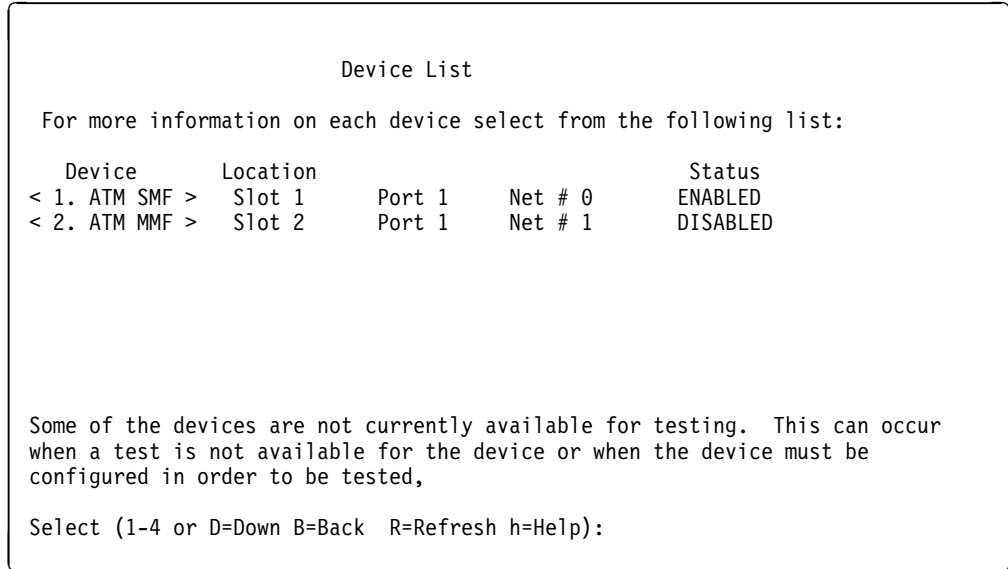

Figure 4-2. Sample of Device List Page Showing Interfaces
- 3** Select **<1. The Device List >** to view a list of installed devices. (Status and test options for each device are from the Device List page.) The Device Status and Control page (similar to the one in Figure 4-2 on page 4-4) appears.